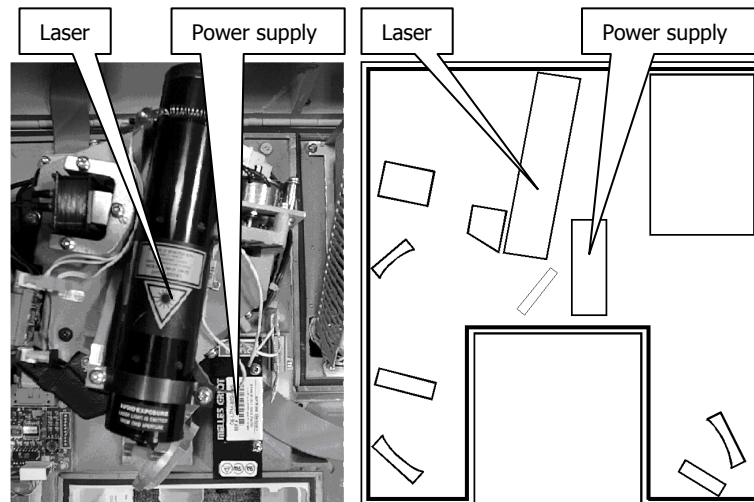

Figure 48 Laser and power supply
1. Open the Main Cover of the instrument as detailed on page 84 and identify the Laser and Power Supply (Figure 48).